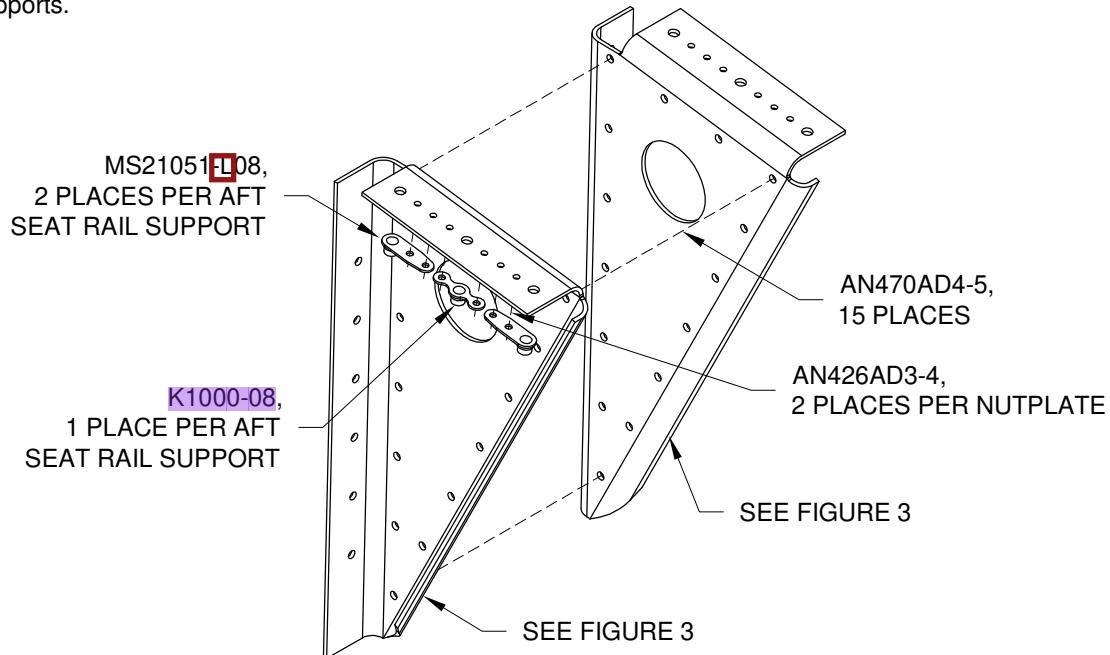

FIGURE 1: TYPICAL AFT SEAT RAIL SUPPORT SUBASSEMBLY
Step 1: Cleco the F-1004S-L and F-R and the F-1004R-L and F-R Aft Seat Rail Supports together as shown in Figure 1 and called out in Figure 2 to create four Aft Seat Rail Support Subassemblies. Final-Drill #30 all the holes common between both parts in all four subassemblies. Final-Drill #40 the nutplate attach holes and #19 all the screw holes in the upper flanges of all the aft seat rail supports.